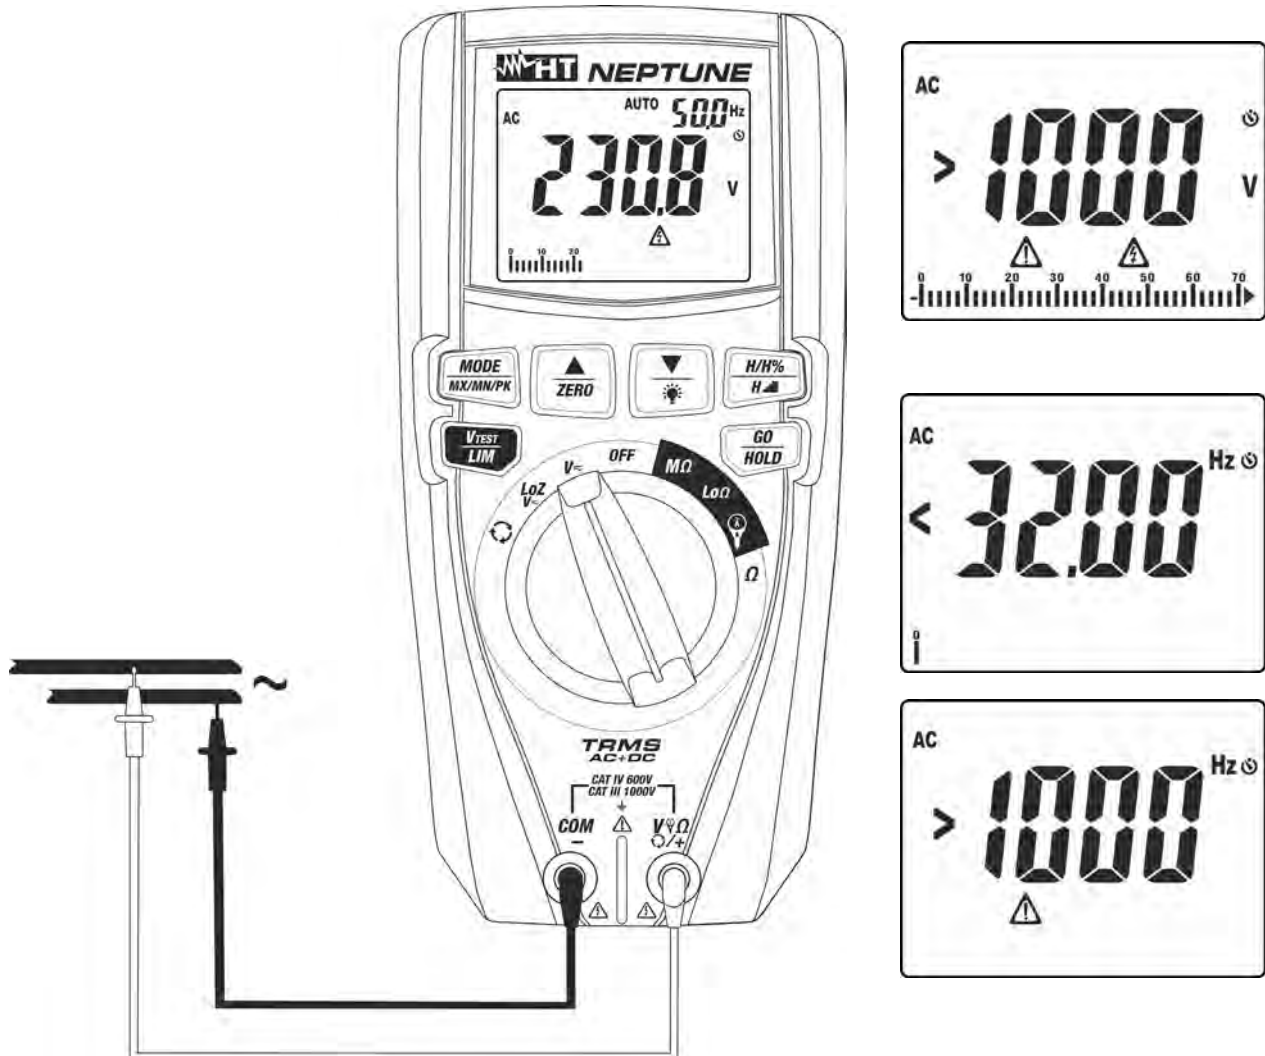

Fig. 7: Use of the instrument for AC voltage measurement
4. Position the red lead and the black lead respectively in the spots of the circuit to be measured (see Fig. 7). The display shows the value of voltage. On the top of the display on the right side, the value of voltage frequency is displayed. Press key **MODE/MX/MN/PK** to display the value of frequency with a higher resolution.
5. If the display shows the message ">1000V" (see Fig. 7), the maximum measurable value has been reached.
6. If the display shows the messages "<32Hz" or ">1000Hz" (see Fig. 7), the value of frequency is out of the measuring range $32\text{Hz} \div 1000\text{Hz}$.